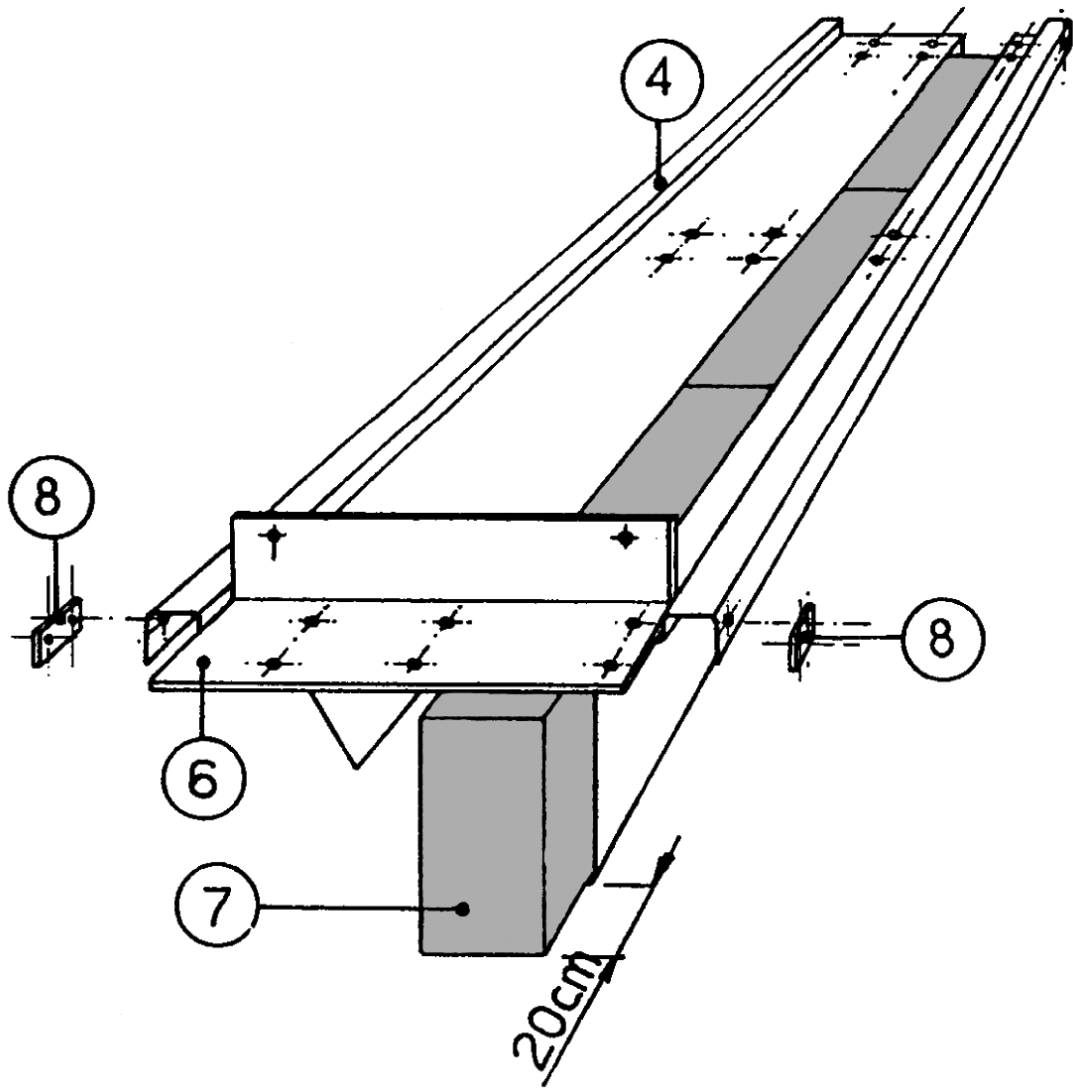

Figure 5b.
5.2 The positioning of each component part of the channel system (4) for the connection between them is indicated in (figure 5b). The junction angle plates (6) provided hold in position and join together the component parts.
- The continuity and the alignment between two component parts is obtained by making the polystyrene filler protrude by approx. 20cm. (7), and this one will fit into the next part of the channel.
- The copper fish plates (8) for the earthing of the channel will be bolted between the parts to bridge them.